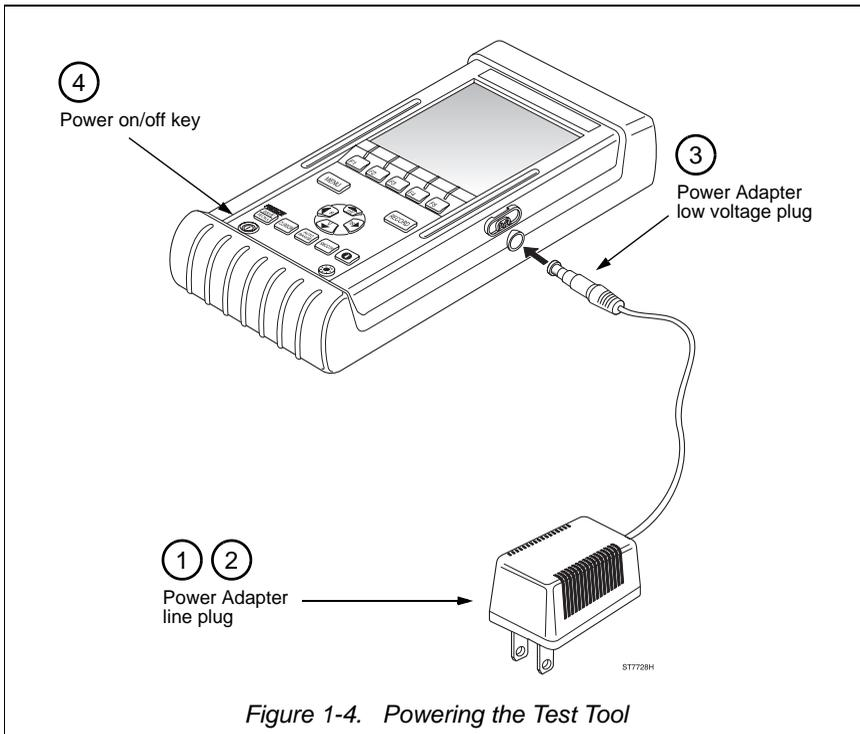

Figure 1-4. Powering the Test Tool
Perform the following steps to power the test tool (see Figure 1-4).
- ① Make sure the Power Adapter is suitable for the local power line voltage (see Appendix 7C).
- ② Take the Power Adapter and connect the line power plug to the lines.
- ③ Connect the low voltage plug to the test tool as shown in Figure 1-4. This supplies the automotive test tool and charges the internal rechargeable NiCad Battery Pack. At delivery, the NiCad batteries may be discharged and must be charged for 16 hours to charge them completely.
- ④ Press the **ⓘ** key (Power on/off) to turn the test tool on.